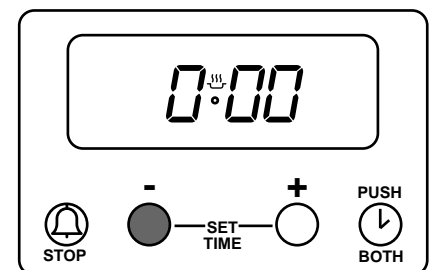

Fig. 6.10
Press and release button (1). Then press and hold button (1) and the display will count down in one minute intervals to  $0^{\text{M}}:00$ . See Fig. 6.10. Release button (1).